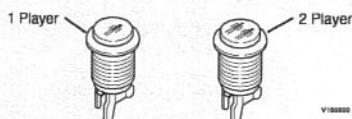

Figure 3: Start Buttons
17. Notice that there are two white buttons. See figure 3. The **WHITE** buttons are **START** buttons. Install the one player button on the top left-hand side of the control panel, and the two players button on the top right-side of the control panel.